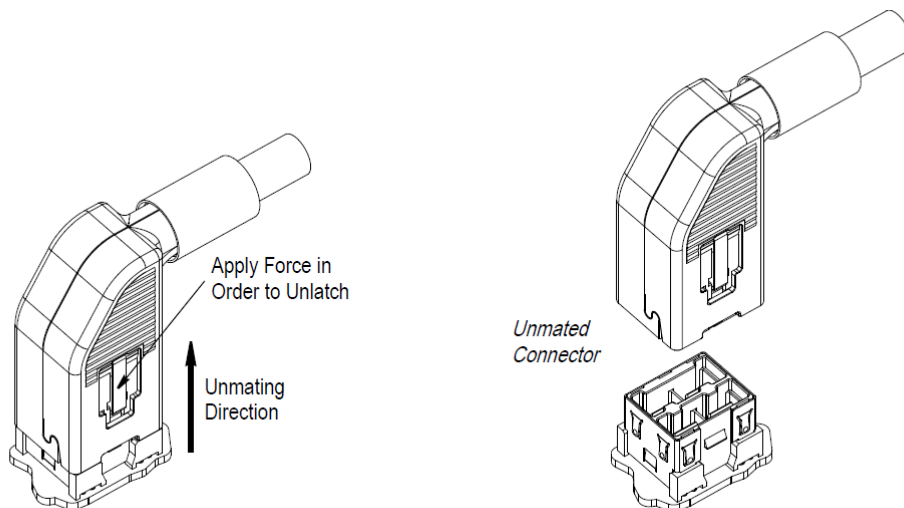

Figure 13
2. While pressing the latch, withdraw the cable connector from the board connector with a slight rocking motion. See Figure 13.